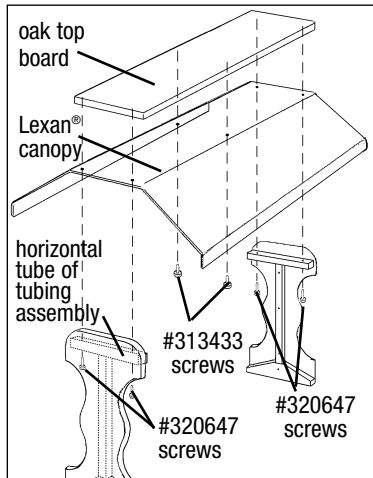

Figure 4
- Place oak top board onto top of Lexan® canopy until desired location is achieved. Secure both the Lexan® canopy and the oak top board to the tubing assemblies, using two #320647 screws per end through the bottom of the horizontal tube and into the oak top board, and two #313433 screws through the center holes in the Lexan® canopy – see *Figure 4*.